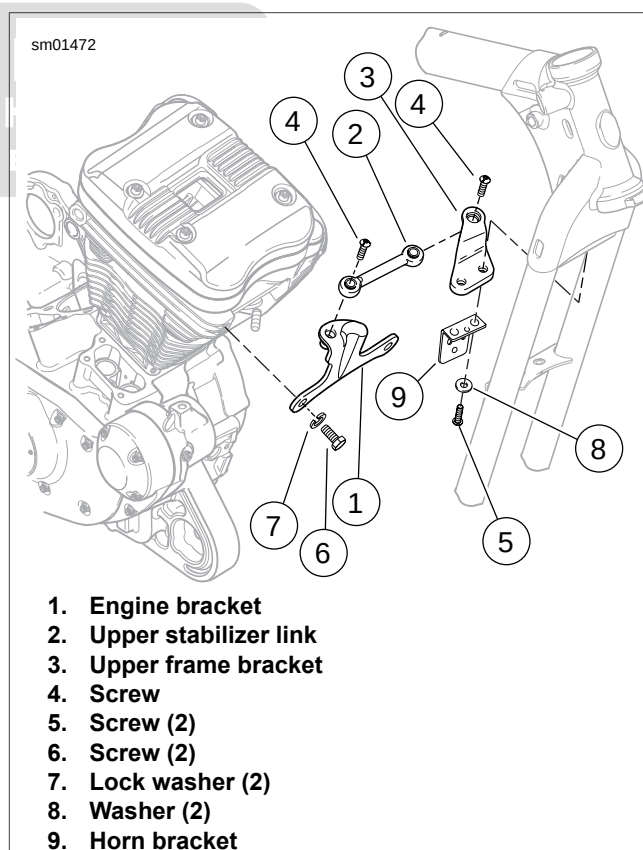

Figure 3-39. Upper Front Stabilizer Link Assembly
11. See Figure 3-39. Remove upper front stabilizer link and frame bracket:
- a. Remove screw (4) securing stabilizer link (2) to engine bracket (1).
- b. Remove screws (5) and washers (8). Remove horn bracket (9) (models with front mounted horn) and frame bracket (3) with stabilizer link.